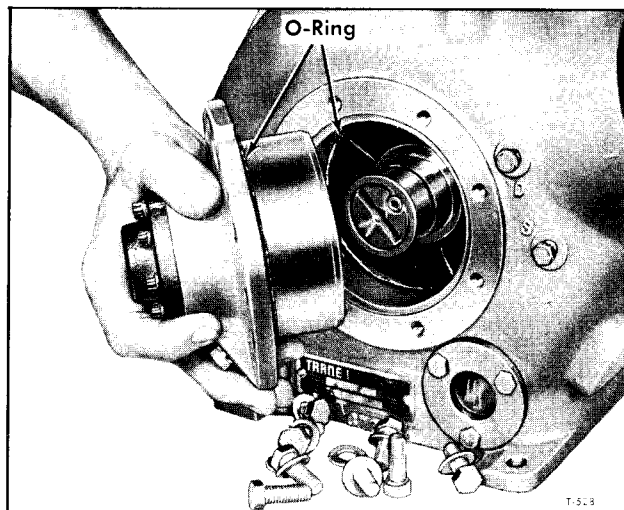

Figure 41—Replacing Head and Oil Pump
1. Remove screws which attach bearing head (11) to housing. Pull head and oil pump assembly from housing (fig. 41).
3. Clean and lubricate the bearing surfaces of the crankshaft and bearing head (11).
4. Insert one O-ring (13) into groove of compressor housing and other O-ring (12) on the bearing head next to flange as shown in figure 41.